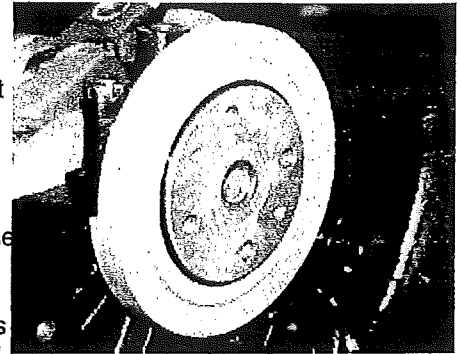

FIGURE 4
16) Apply a dab of #587 Sealer to the two mating surfaces of the Seal Retainer (where they bolt together). Place the rear cap with Seal Retainer attached in position. Tighten and torque the six main bearing nuts, all the while determining that the Seal is seated into the Seal Retainer. Install and tighten the two socket screws. Be sure to apply a dab of grease or anti-sieze compound to these 2 screws. The installation at this point should look like FIGURE 4.